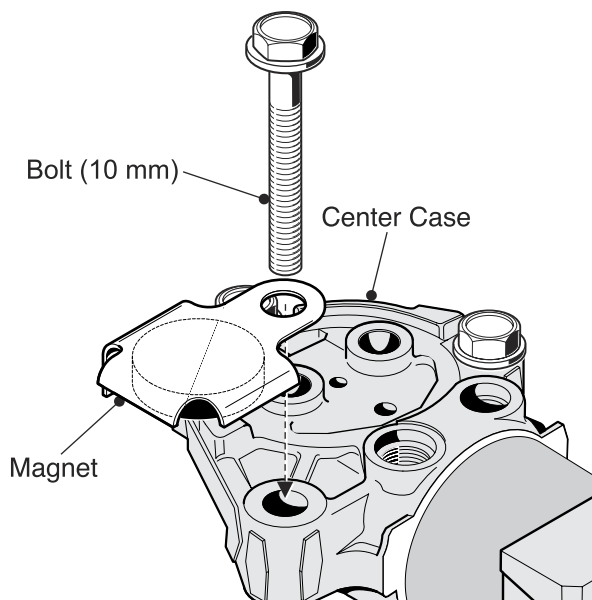

Fig. 36, Magnet Mounting
5. Install Magnet and Bolt in third hole of Center Case. (Fig. 36)